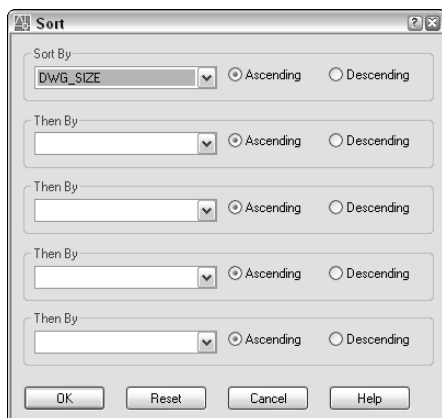

**Figure 20-6:** Use the Sort dialog box to temporarily sort your data in the Data View window.
- ♦ **Sort records:** You can sort records in ascending (low to high) or descending (high to low) order. Sorting helps you to more easily find the records that you want. Right-click any column header and choose Sort to open the Sort dialog box, shown in Figure 20-6. In the Sort By drop-down list, choose the column that you want to sort by first. Then choose Ascending or Descending. This column may have duplicate records. If so, you may want to choose a secondary column for sorting in the Then By drop-down list. Choose Ascending or Descending for the secondary column. AutoCAD will then sort first by the first column and then by the secondary column. You can choose up to five columns to sort by.